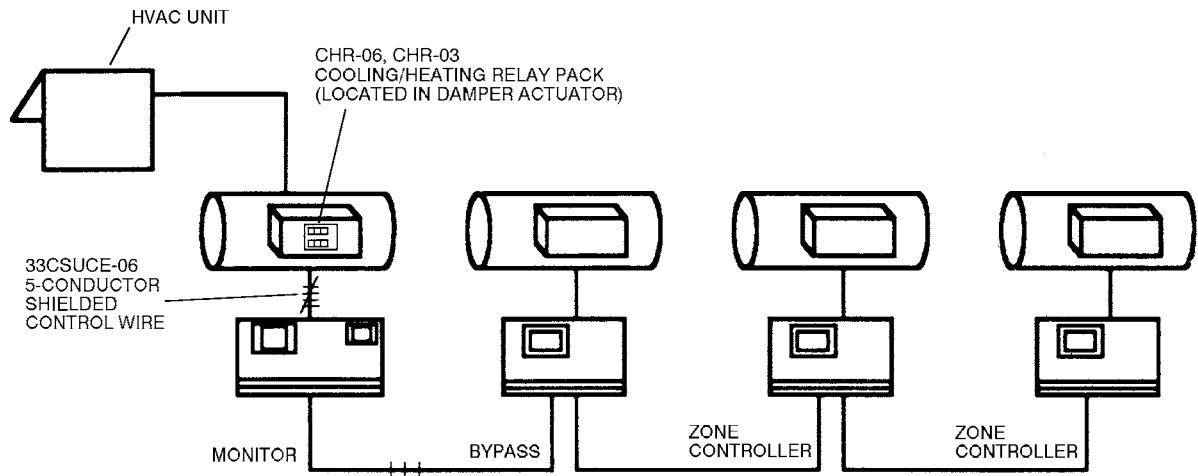

Fig. 17 — VVT® Monitor System Configuration (Monitor Controls Damper)
- determine the system requirements for heating and cooling based on its own zone information and the information gathered from the associated zone controllers. See Fig. 17.